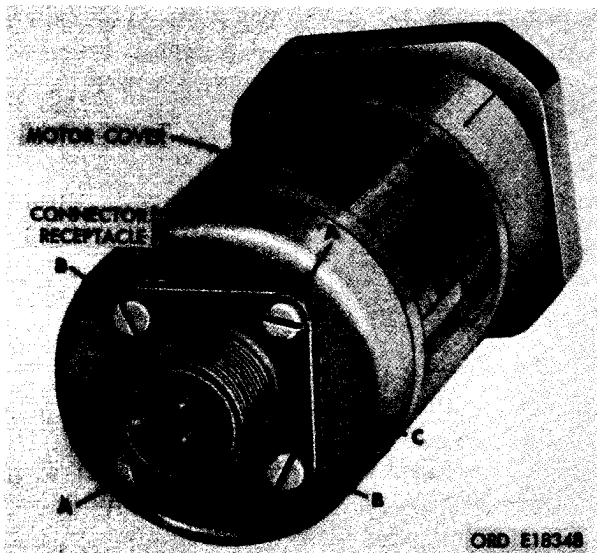

FIGURE 421. PARTIAL DISASSEMBLING OR ASSEMBLING OF CONNECTOR RECEPTACLE.
- (1) Figure 421. (A) Remove two No. 4 x 7/8 pan head machine screws and seal washers. (B) Remove two No. 4 x 3/8 pan head machine screws and seal